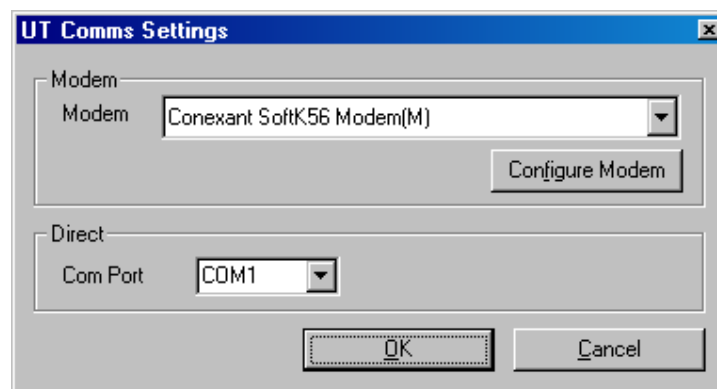

Figure 17 - UT communication settings Screen
Communications to the IMC/W2 may be conducted directly or remotely, via modem. The operator is able to specify which communications port is to be used for direct communications (com 1 to com 8), and the modem configuration for remote communications, refer to Figure 17. The recommended modem settings are detailed in Table 5 (*Modem Settings Reference Table*).
- On the *Configuration* screen select the *UT Comms Settings* option and the *UT Comms Settings* screen will be displayed – see Figure 17 on page 38.
- On the *Configuration* screen select the *UT Comms Settings* option and the *UT Comms Settings* screen will be displayed – See Figure 17 on Page 38.